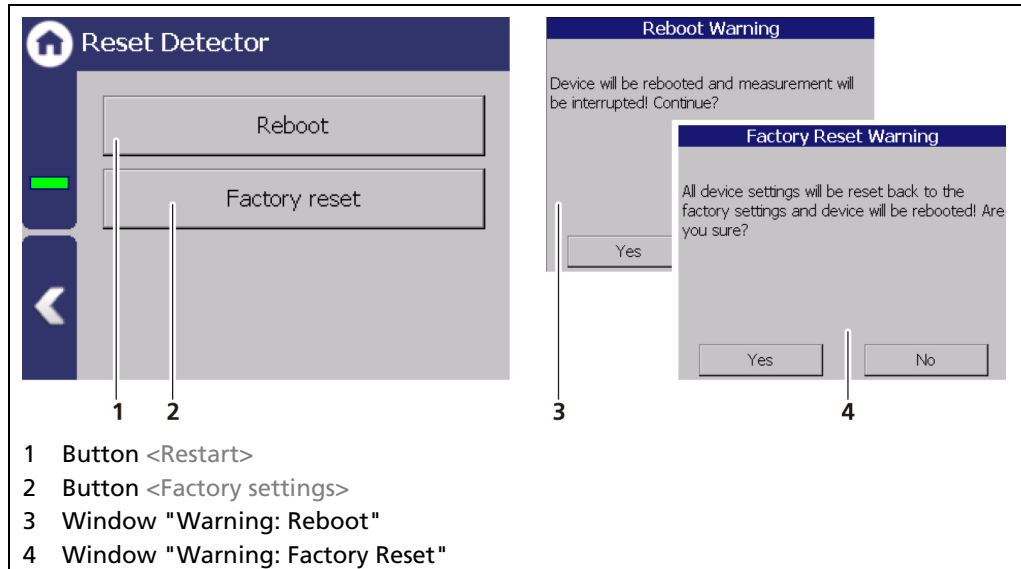

Fig. 60 Reset Detector
1. Click on a line in the list (Fig. 60, item 3).
2. Click on <?> (Fig. 60, item 4).